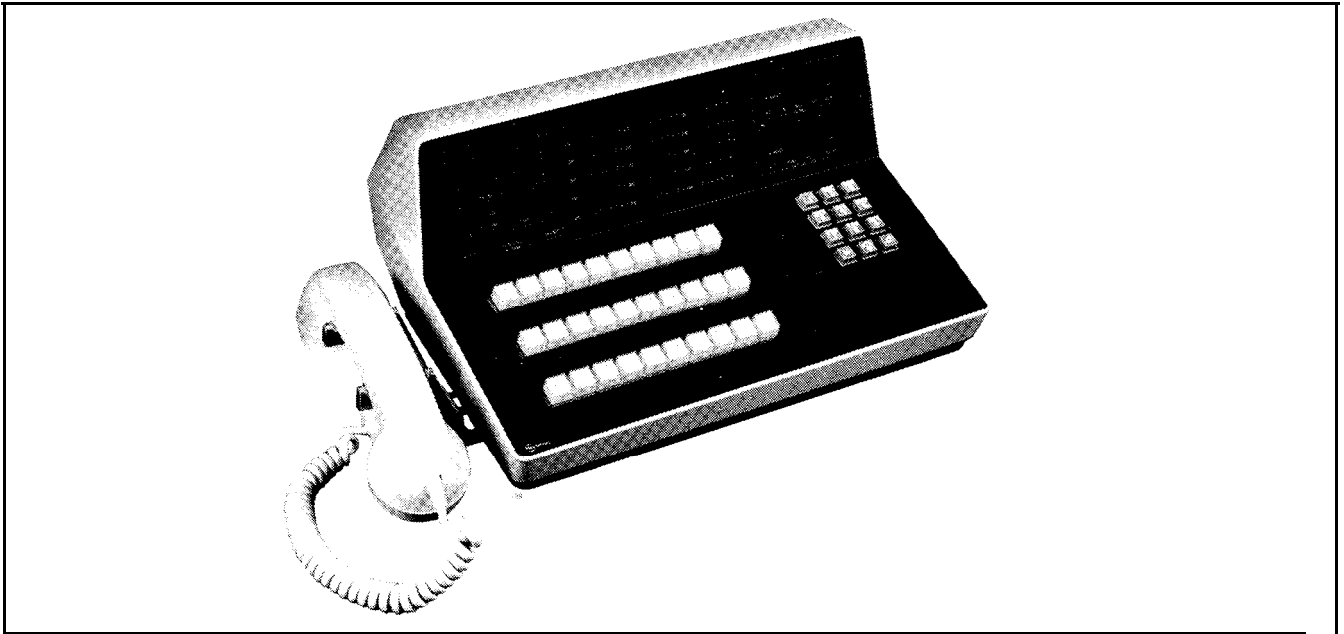

Fig. 2-8 Attendant Console
2.13 The SX-200 attendant console (see Fig. 2-8) is enclosed in a housing with a black faceplate. Located on either side of the console